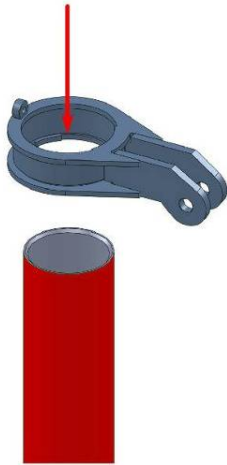
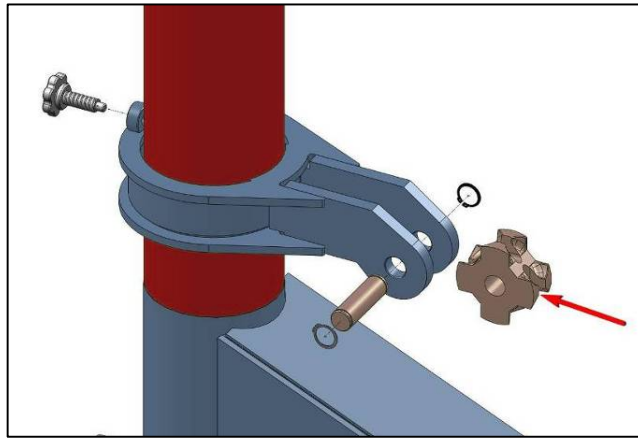

Figure 6.12
Figure 6.13
6.2.3 Collar installation: Firstly install the collar throw the top of the tower. See figure 6.12 Secondly, install the hand bolt, Sprocket wheel, axes onto the collar. See figure 6.13